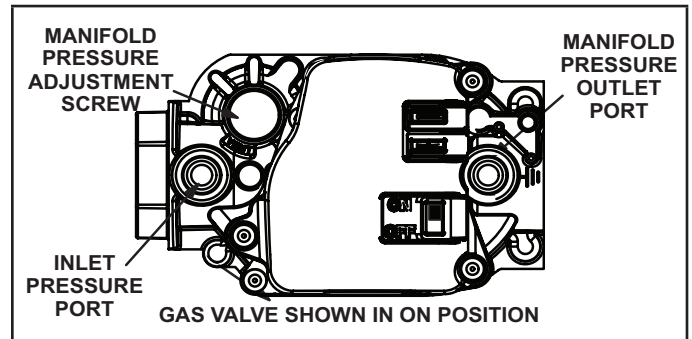

FIGURE 60
### Gas Valve Operation (Figure 60)
- 6 - Move gas valve switch to OFF. See figure 60.
- 8 - Move gas valve switch to ON. See figure 60.
When testing supply gas pressure, use the 1/8" N.P.T. plugged tap or pressure post located on the gas valve to facilitate test gauge connection. See figure 60. Check gas line pressure with unit firing at maximum rate. Low pressure may result in erratic operation or underfire. High pressure can result in permanent damage to gas valve or overfire.